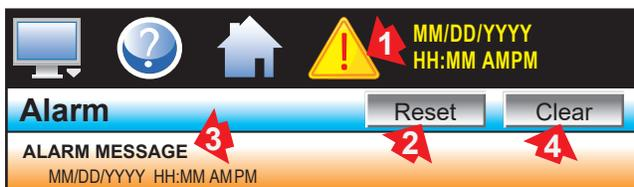

Figure 40. Flashing Alarm Notification
When an alarm icon flashes. Touch: (1)Alarm icon to view message. Silence alarm, touch (2)Reset. Correct the condition - only non active alarms can be cleared. Touch: (3)Alarm Message to open File (4)Clear to remove from list (Figure 40).